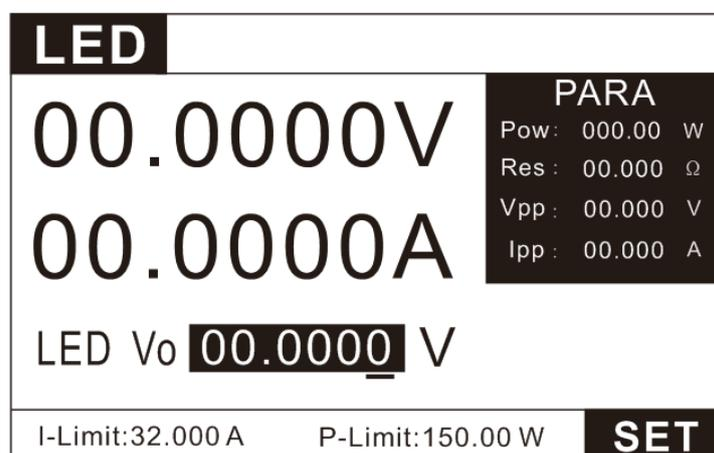

Figure 3.26 LED mode testing page
1. Press the key **MODE** to enter the mode selection page, press the up and down keys to select LED, and press the key **ENTER** to enter the LED test interface, as shown in Figure 3.26.
2. In Figure 3.26, press the key **SET** to enter the setting interface, as shown in Figure 3.25, set  $V_o=34.4V, I_o=0.35A, R_f=0.173$ . Then  $R_f$  is calculated as follows: